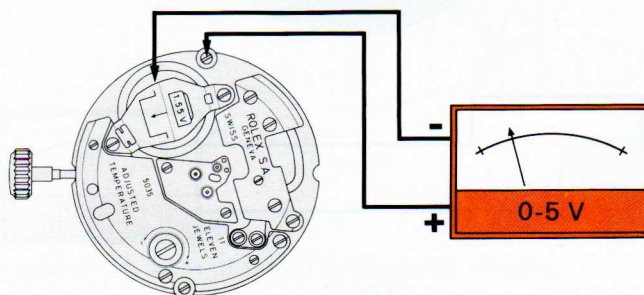

Fig. 5
- 2.1. Place the positive voltmeter test lead terminal on the movement, for example in the notch of the screw for case and the negative terminal on the top side of the battery (Fig. 5). The voltage must be at least 1.55 volt.